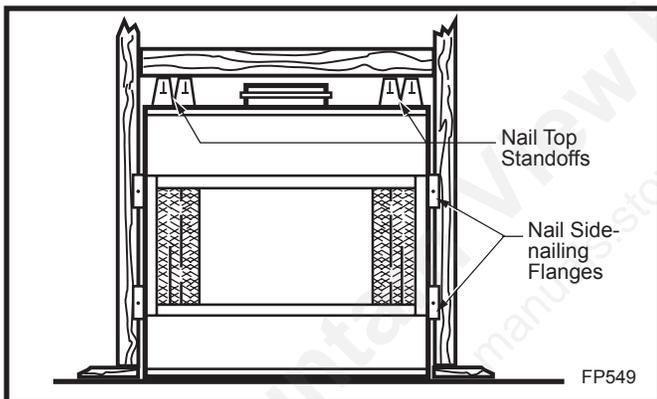

Fig. 3 Adjustable drywall strip (nailing flange).
2. Four (4) nailing flanges are supplied with the fireplace (found on the fireplace hearth). To level the box and secure it firmly in place, remove the nailing flanges from the hearth and install at the sides of the fireplace as shown in Figure 3.